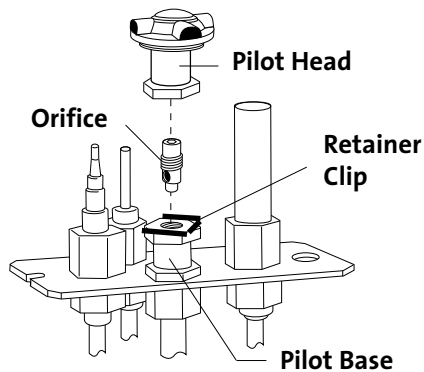

Figure 25. Pilot orifice removal and replacement.
11. **CHANGE THE PILOT ORIFICE:** From within the firebox, remove the Pilot Head by pulling it straight up from the pilot base. See fig. 25.